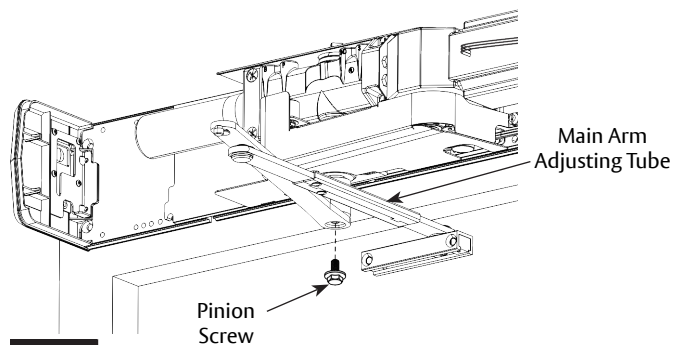

Figure 21
2. Slide forearm into main arm adjusting tube. (Figure 21)
3. Place square of main arm onto closer pinion. (Figure 21)
4. Attach main arm to pinion with screw then tighten with 7/16" wrench. (Figure 21)